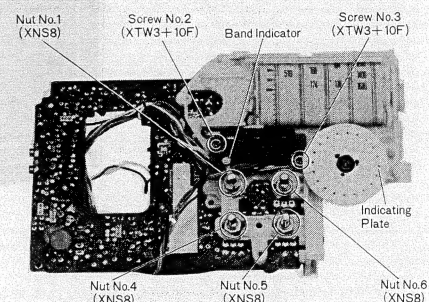

Fig. 3
3. Remove band indicator and indicating plate, as shown in fig. 3.
4. Remove the two (2) screws (nos. 2 & 3) for switch, as shown in fig. 3.
5. Remove the four (4) nuts (nos. 1, 4, 5 & 6) for volume, as shown in fig. 3.